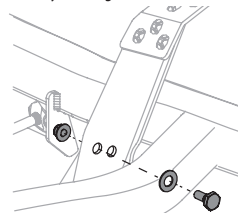

Figure 37
2. Remove the hex bolt, washer and hex nut near the center of the pedal assembly. See Figure 37.
4. Re-install the hardware previously removed and torque the nut to 28-35 ft-lbs (38-47 N-m). See Figure 37.